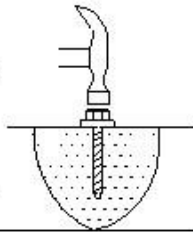

Fig. 3
3. After drilling, remove dust thoroughly out of each hole using compressed air and/or wire brush. Make certain that the column remains anchor bolts are tightened, the columns will be plumb. (See Fig. 3)